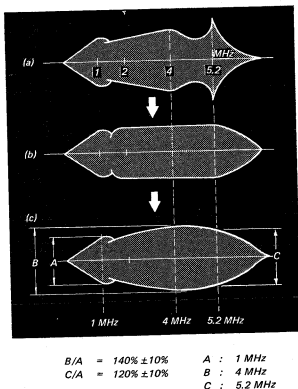

Fig. 6-3. Playback RF sweep waveform
3. Set R283 (resonance gain) fully counterclockwise. Set R285 (resonance gain) fully clockwise. Adjust C237 (CH-A) and C240 (CH-B) for a resonant frequency of 5.2 MHz. See Fig. 6-3 (a).
4. Adjust R283 and R285 for the correct playback rf envelope as shown in Fig. 6-3 (b).
5. Set R293 (equalizer gain) fully clockwise Adjust L205 for equalize frequency of 4 MHz. See Fig. 6-3 (a) adjust R283, R285 and R293 for flat rf envelope as shown in Fig. 6-3 (b).